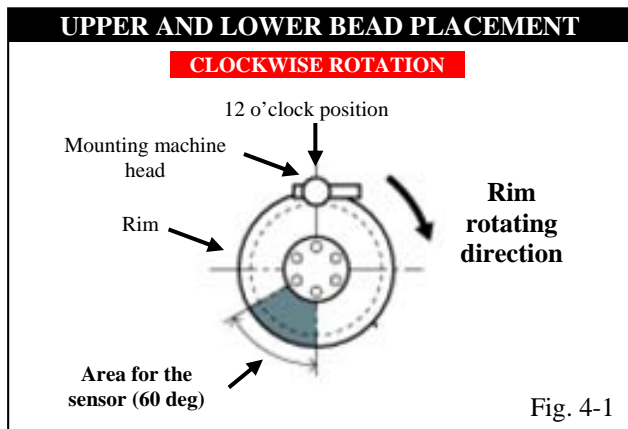

Fig. 4-1
- (c) Position the wheel on the mounting machine with the sensor at ~ 7 o'clock position (shaded area in Fig. 4-1).
- (1) The mount/dismount head is considered as 12 o'clock.
- (e) Reposition the wheel on the mounting machine with the sensor at ~ 7 o'clock position (shaded area in Fig. 4-1).